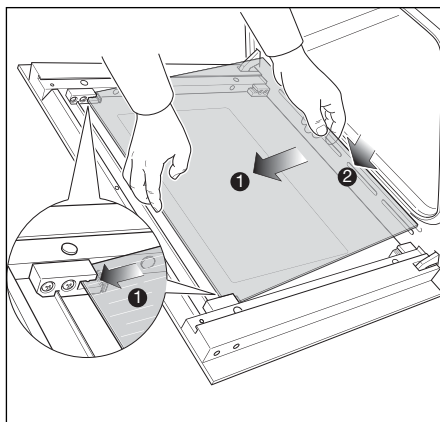
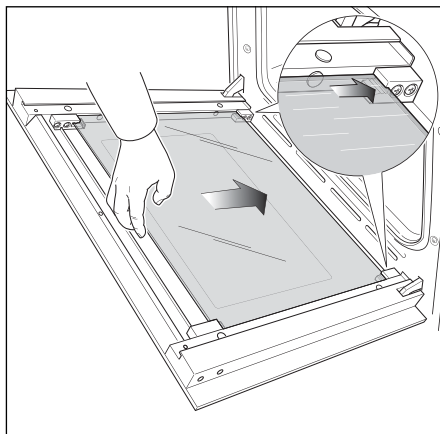

Fig.23b
Fig.23c
- Gently insert the top edge of the pane into the top clamps (arrow 1 in Fig. 23b), then lower the pane and insert the bottom edge into the bottom clamps (arrow 2 in Fig. 23b); and then slide the pane into position (Fig. 23c)